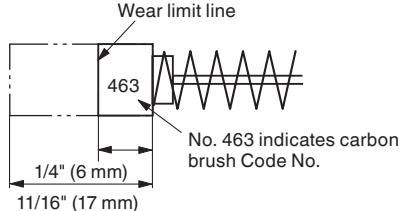
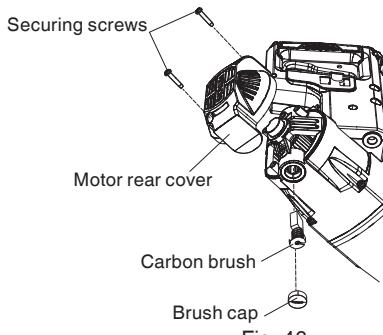

Fig. 45
Fig. 46
2. Inspecting the carbon brushes (Fig. 45 and Fig. 46)
Therefore, inspect the carbon brushes periodically and replace them when they have become worn to the wear limit line as shown in Fig. 45.
NOTE: When replacing the carbon brushes, use only Hitachi carbon brushes having "463" of Code No. (see Fig. 45). If you use other carbon brushes, the electric brake will not operate.